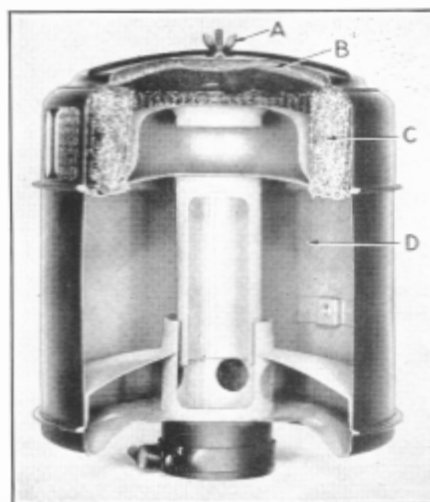

Figure 8
3. Remove wing nut (A), Figure 8.
4. Remove cover and pad assembly (B).
7. Reinstall cover and pad assembly (B).
8. Reinstall wing nut (A).